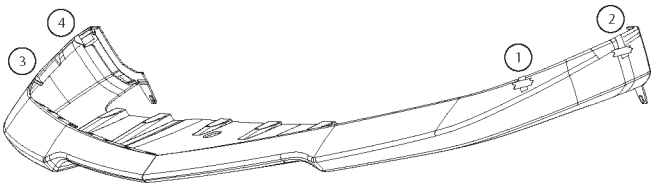

FIGURE 47
4. Attach tape leader tabs to the outside of the part using masking tape. Refer to figure 47.